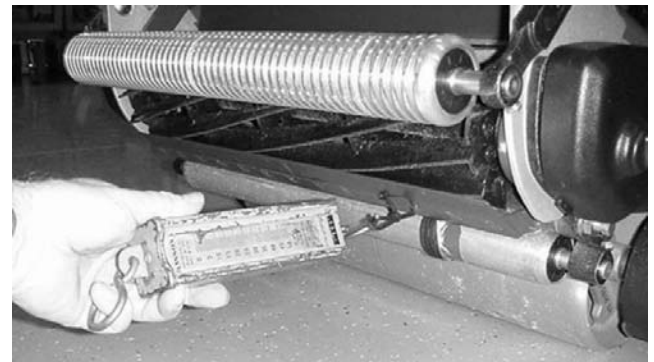

Figure 32
- A. Wrap a string several times around the roller and connect the end of the string to a spring scale. Pull the spring scale to identify the rolling resistance of the roller (Fig. 32). The roller should rotate before the spring scale registers 6 lbs (2.7 kg).